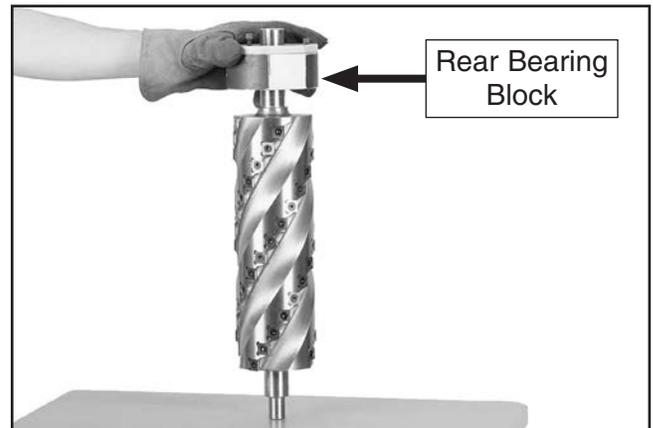

Figure 14. Re-installing rear bearing block assembly.
1. Slide rear bearing block as far as possible onto longer cutterhead shaft, as shown in **Figure 14**.